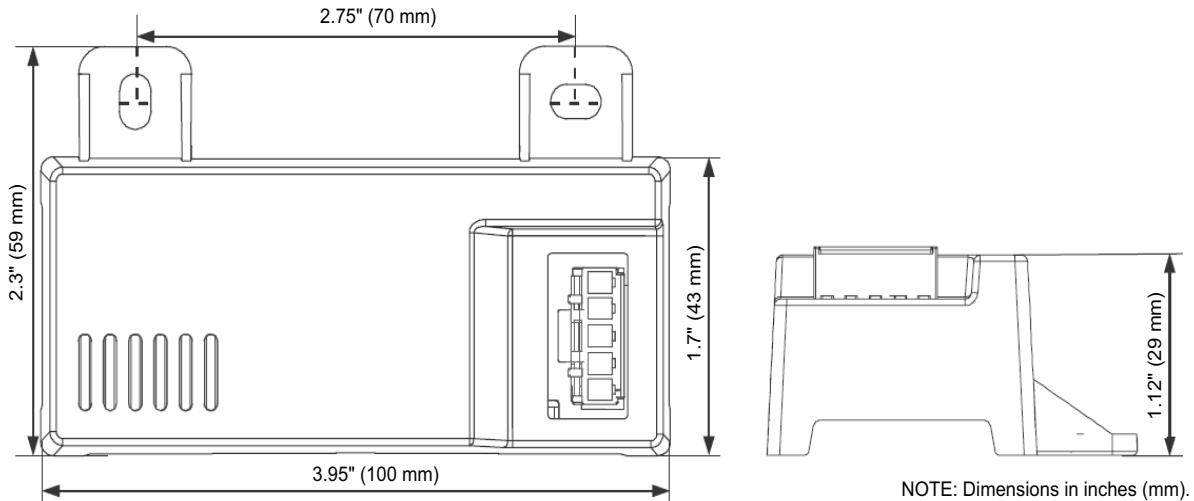
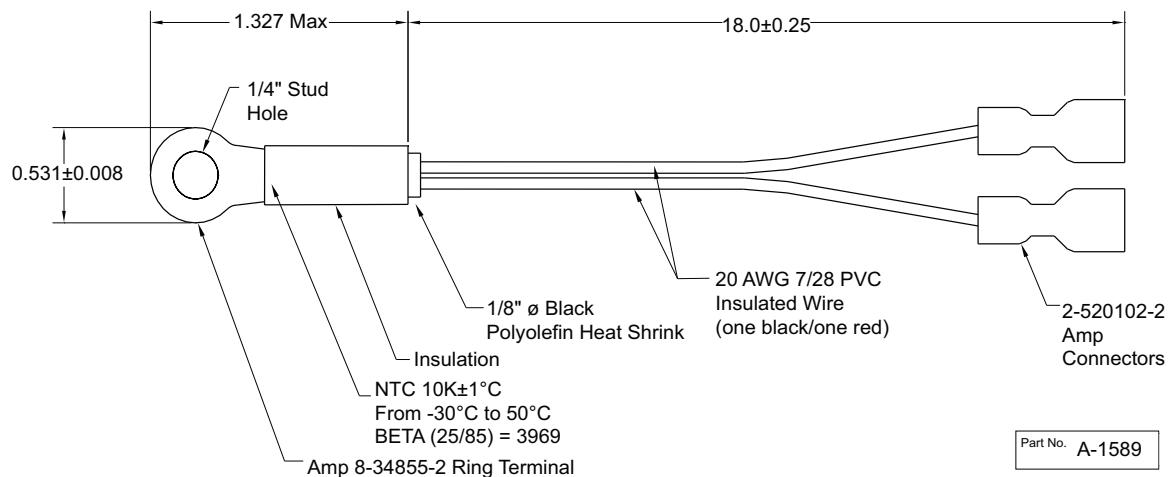
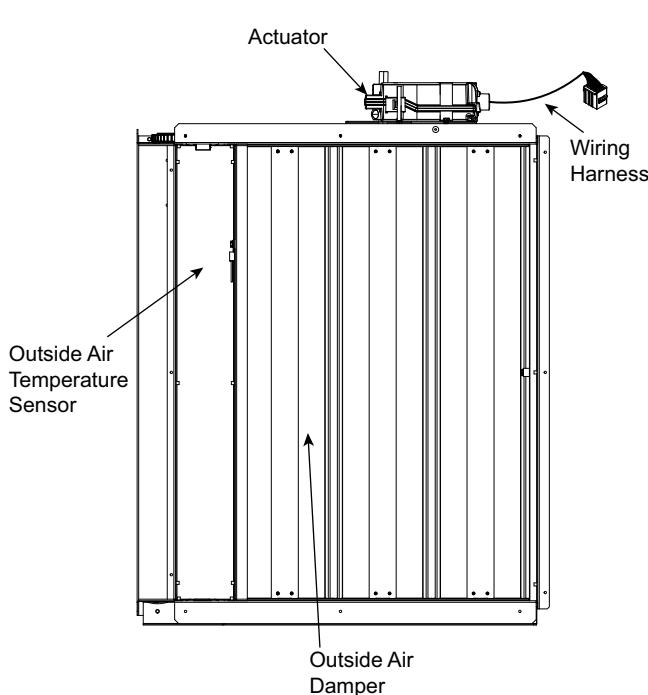

Fig. 71 — HH57LW001 Dimensional, Connection and Switching Information
Fig. 72 — HH79NZ039 Dry Bulb and Mixed Air Sensor Wiring
Fig. 73 — EconomizerONE Component Locations (CRECOMZR108A00 Shown)
When using the HH57LW001 enthalpy sensor (see Fig. 71) for outside air changeover, the existing HH79NZ039 dry bulb sensor (see Fig. 72) must be removed. The enthalpy sensor will be mounted in the same location as the dry bulb sensor (see Fig. 73). When the enthalpy sensor's OA (Outside Air) temperature, enthalpy, and dew point are below their respective setpoints, the outside air can be used for free cooling. When any of these are above the setpoint, free cooling will not be available. Enthalpy setpoints are configurable and create an enthalpy boundary according to the user's input. For additional details, see Fig. 74-75 and Table 28.
The optional enthalpy control sensor (P/N: HH57LW001) communicates with the POL224 economizer controller using the 5-wire harness, 48TC005213. The HH57LW001 sensor can be used as a single outside air enthalpy, a differential return enthalpy, or a differential return temperature sensor. Refer to the base unit control wiring diagrams found earlier in this book to wire the HH57LW001 enthalpy sensor for each option. Use Fig. 71 and Table 30 on page 51 to locate the wiring terminals for each enthalpy control sensor.
Economizers are shipped standard with an HH79NZ039 outside air dry bulb sensor (see Fig. 72). System default setting (high temp limit) is 63°F (17°C) and has a range of 48°F to 80°F (9°C to 27°C). Sensor is factory installed on economizer.
If installing the optional HH57LW001 enthalpy sensor, the HH79NZ039 dry bulb outside air sensor must first be removed. Wire sensor to harness 48TC005213 and the (5) wires from the harness to the EconomizerONE harness in the return air chamber. Harness 48TC005213 has a 5-pin plug that connects directly to the HH57LW001 enthalpy sensor. Refer to the base unit control wiring diagrams earlier in this book for wiring connections. Refer to Fig. 71 and Table 30.